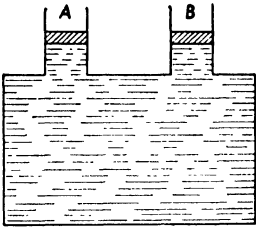

Fig. 6.3. The pistons do not move unless an extra force is applied to one of them; then it will move down and the other one will move up.
30. Pascal's Law. Suppose that a vessel fitted with two equal pistons *A* and *B*, as shown in Figure 6.3, is filled with some fluid. There is no tendency for either of these pistons to move. But if an extra weight is placed on one piston it will move down and the other piston will move up unless a like weight is placed